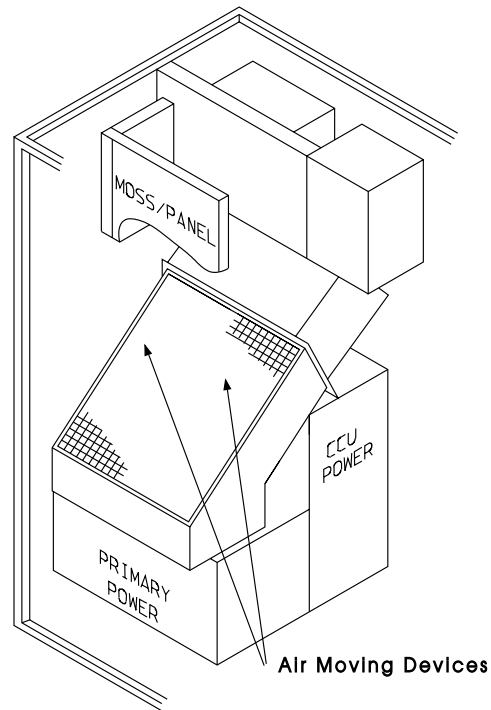

Figure 4-71. Air Moving Devices Location
2. Locate the air moving devices. Refer to Figure 4-71.